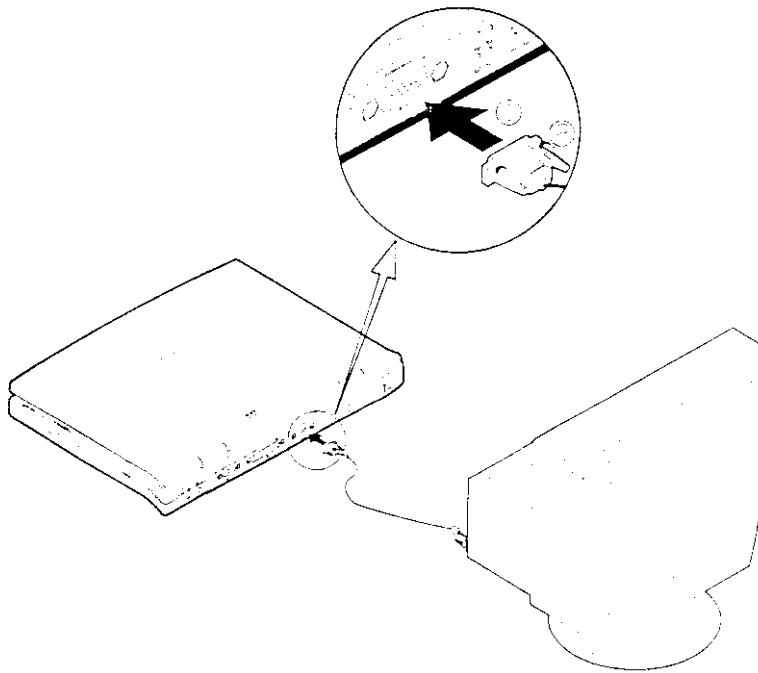

Figure 2-24
2. Connect the cable to the CRT port on the rear of the Notebook Computer (Step 1 in Figure 2-24).
3. Tighten the screws that fasten the cable to the CRT port (Step 2 in Figure 2-24).